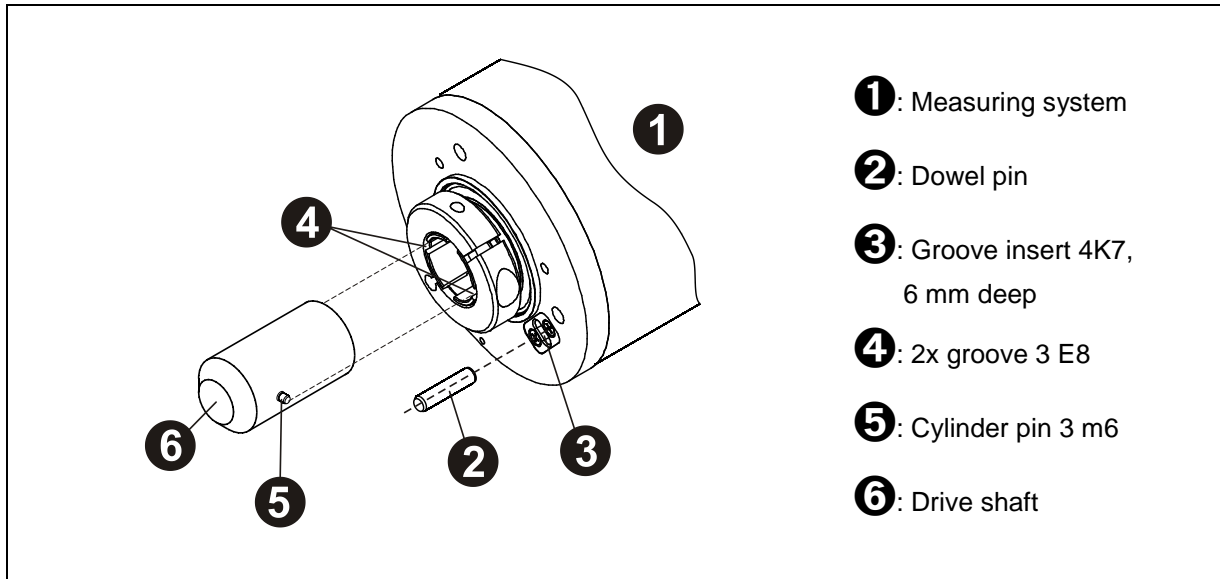

Figure 11: Form-locking
- Radial slipping of the measuring system on the drive shaft must be prevented by a form-locking connection, using a cylinder pin / groove combination; the measuring system must be fixed in position on the drive end using a dowel pin, see Figure 11. The dowel pin must extend at least 4 mm into the groove insert.